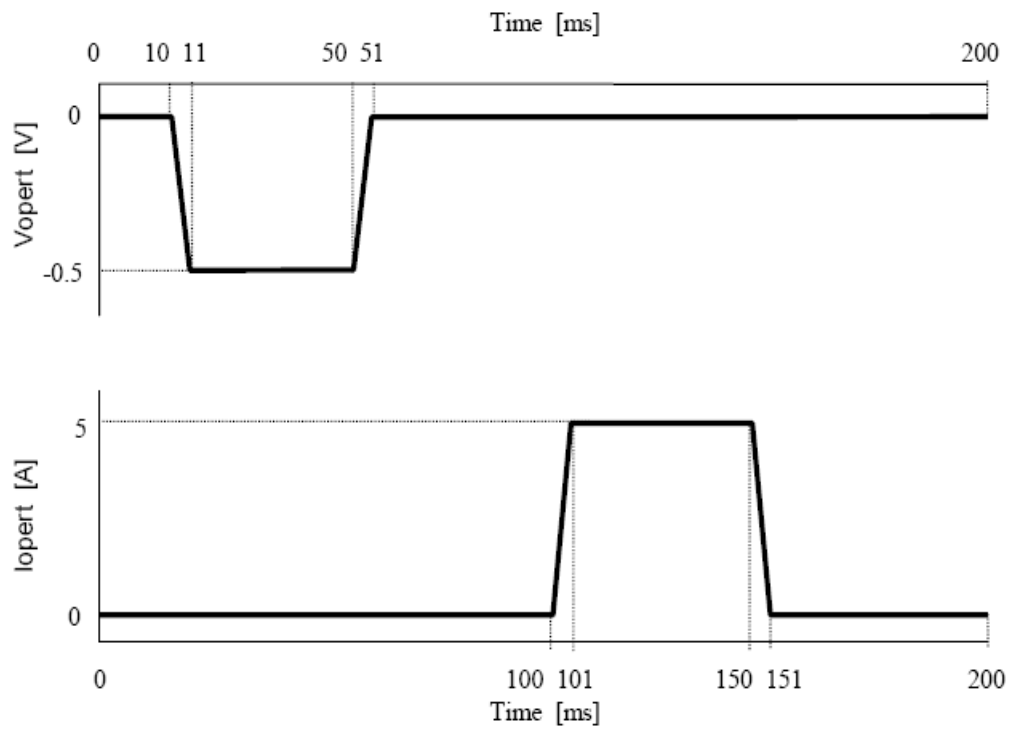

Fig. 2. Waveforms of input voltage and load current disturbance for transient analysis.
- d) Closed-loop transient plots of V(in), I(RL) + I(loper), V(d), I(L), and V(out) when Vopert and lopert change as shown in Fig. 2, and Vd = 0. The total simulation time should be 200 ms and the maximum step size should not be larger than 0.5 ms.